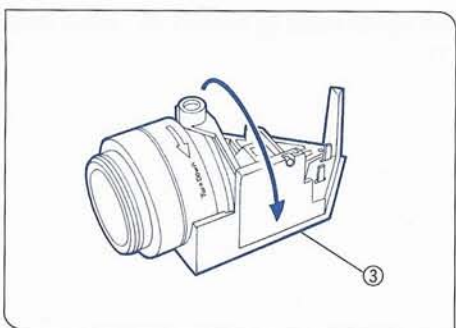

Fig. 8
3. Turn the lamp socket ③ 90° in the direction indicated by the arrow. (Fig. 8)